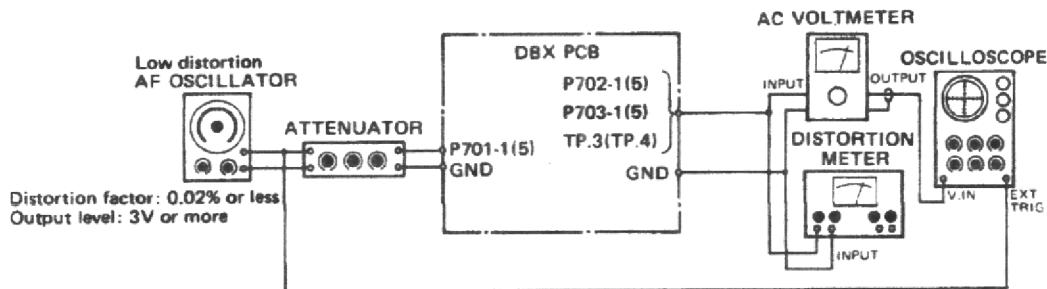

Fig. 3-11 Connection for Encoder adjustment
1. Disconnect wires (with connector) from connectors P701 ~ P703, then make connections as shown on Fig. 3-11. (Each connector's pin 1 and pin 5 correspond L-ch and R-ch respectively.)